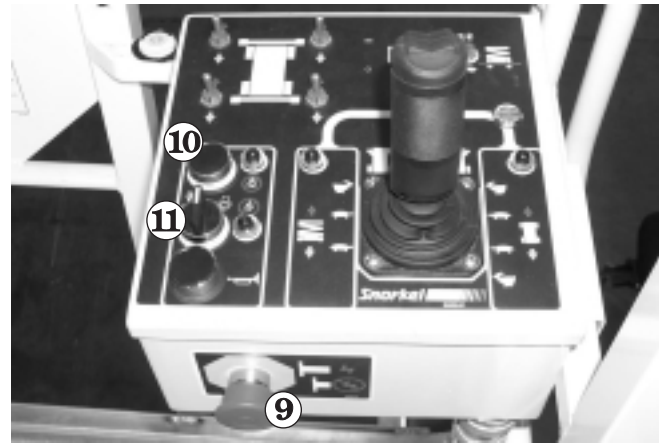

Figure 8.15
7. Turn the **Emergency Stop** switch **9** clockwise and it will pop out (on) (see Figure 8.15).
8. If the engine is cold, press and hold the **Choke** switch **10** (see Figure 8.15) during the next step.
9. Turn and hold the **Start** switch **11** clockwise (to the start position) until the engine starts or for 20 seconds, whichever comes first. When the engine starts, release both the start switch **11** and the choke switch **10** (see Figure 8.15).